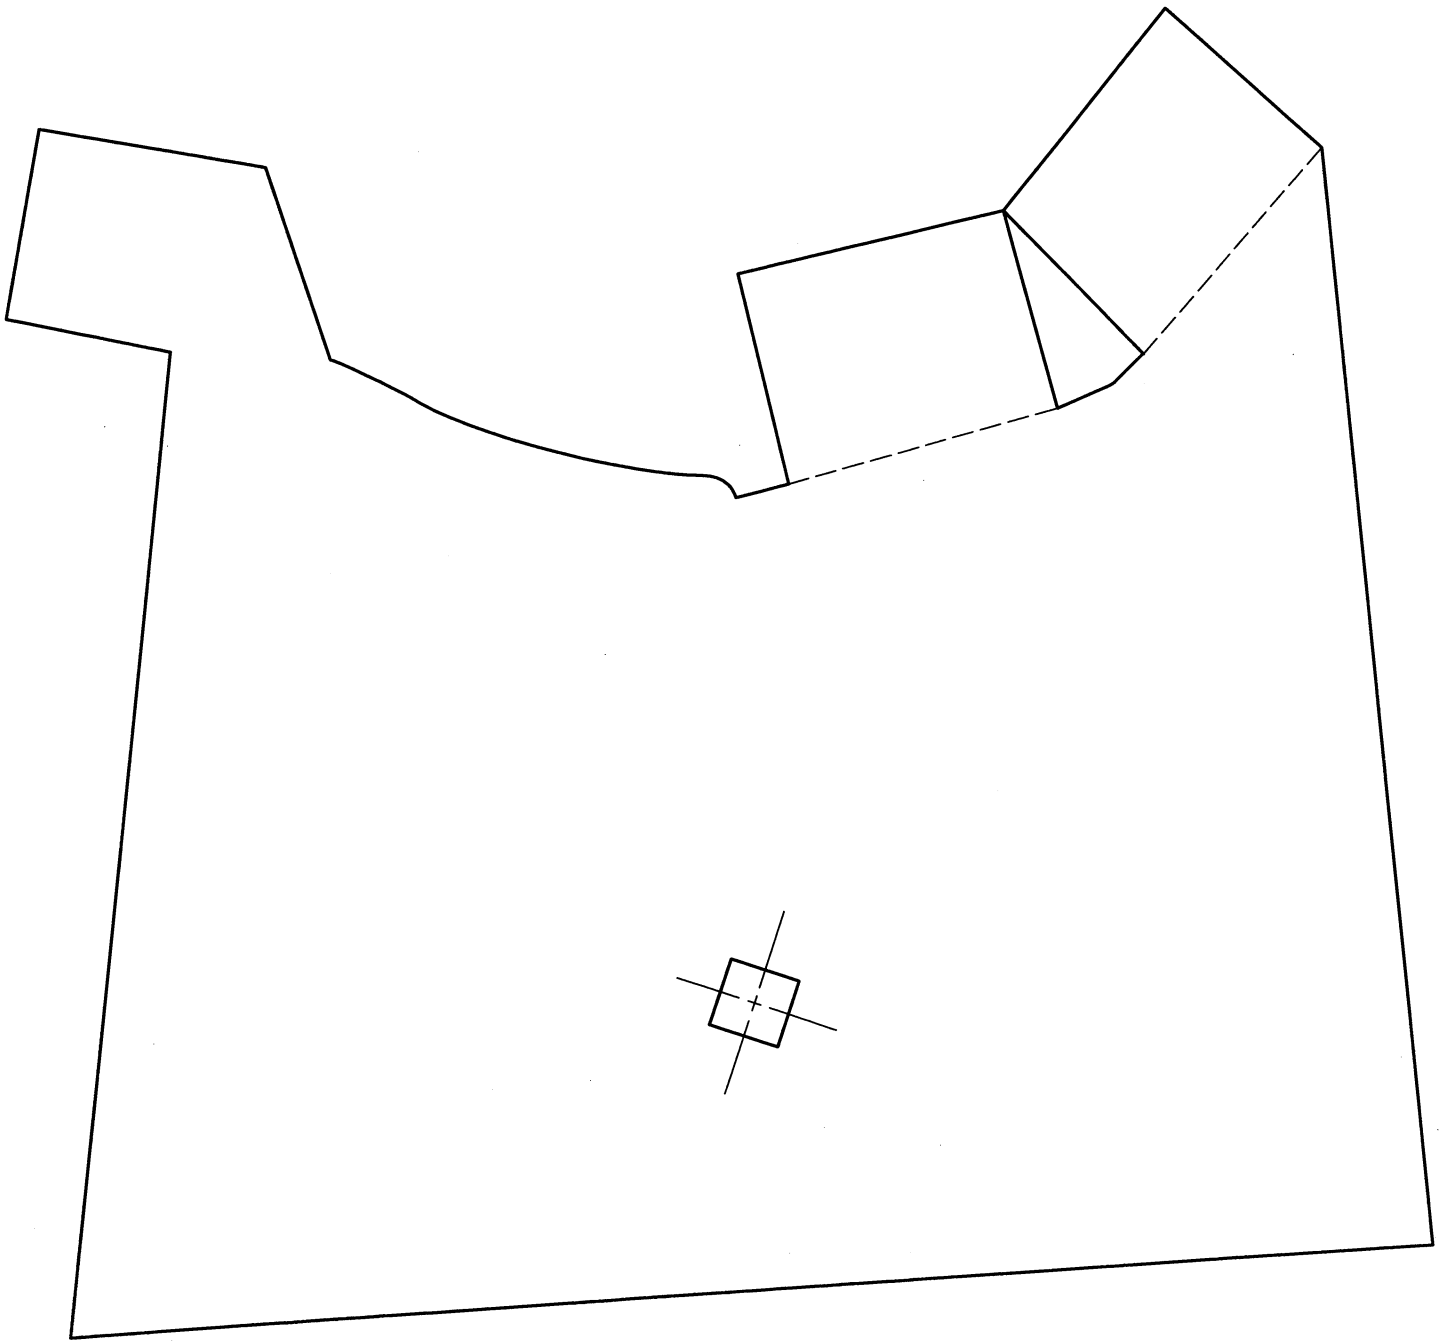

Figure 5 – Hole Template for Twin-cylinder Tractors (to scale)
2. Cut out the hole template (Fig. 5) from the back of this installation manual.